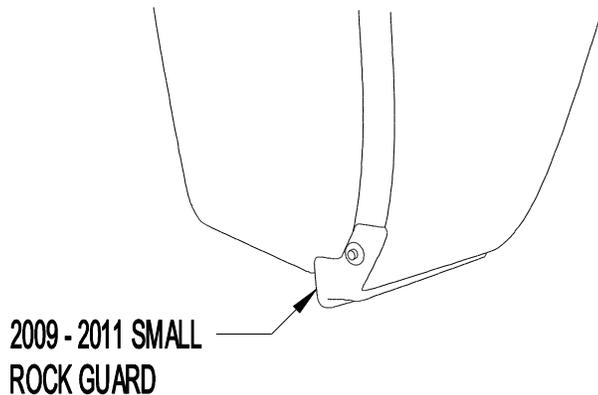
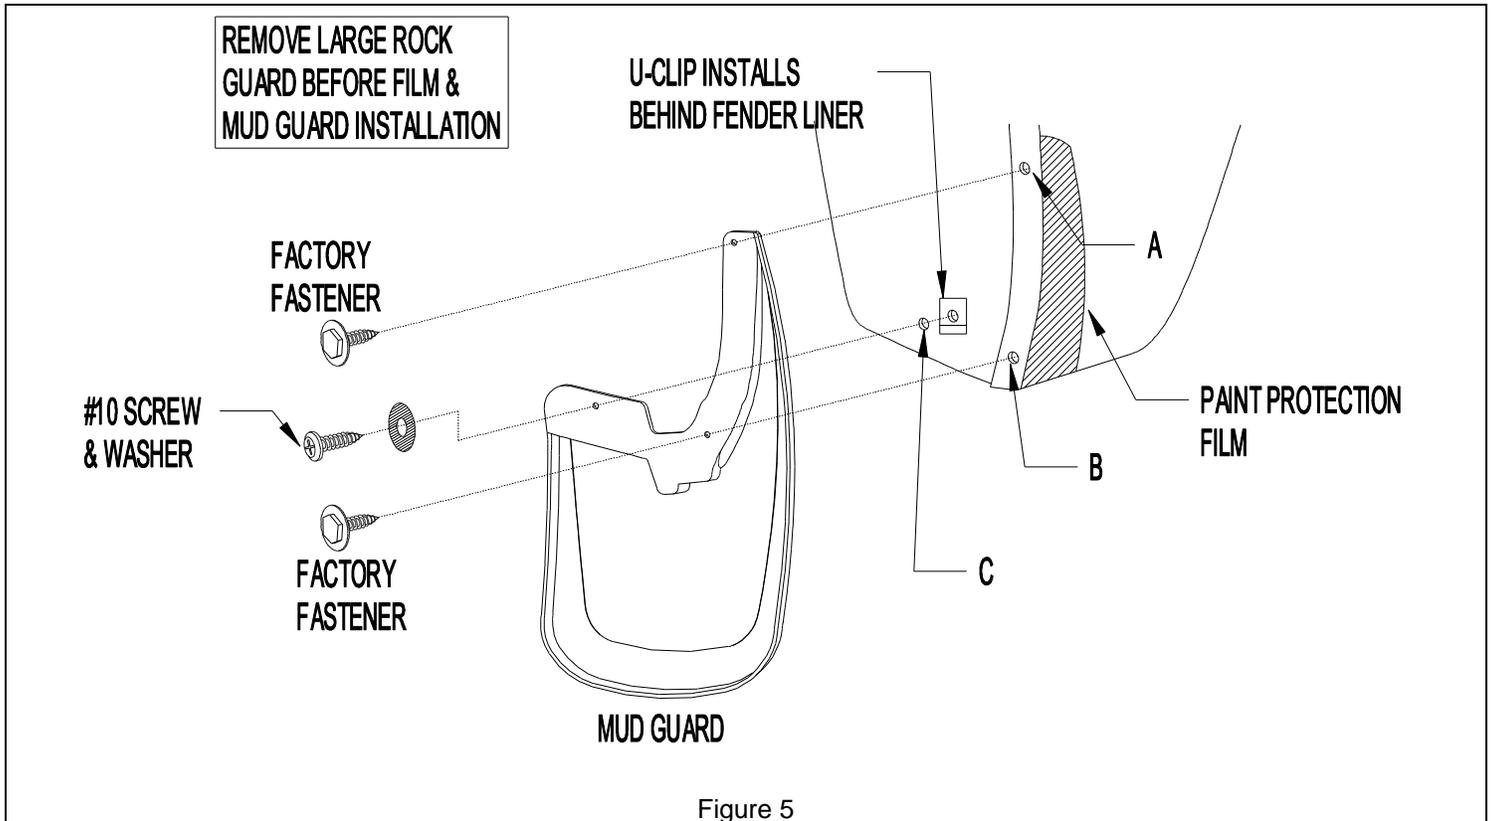

Figure 1
Figure 5
**FIGURE 1:** If you have the "small rock guard" as shown in Figure 1., simply leave the rock guard in place. Next, follow the paint protection film instructions and then the mud guard installation instructions.
1. If you have the "large rock" shown in Figure 2, remove the large rock guard before you install the paint protection film. If you have the small rock guard shown in Figure 1, leave the small rock guard in place and proceed with the paint protection film installation as shown.
1. If you have the "large rock" shown in Figure 2, remove the large rock guard before you install the paint protection film as shown in Figure 5. If you have the small rock guard shown in Figure 1, leave the small rock guard in place and proceed with the paint protection film installation as shown in Figure 4.
1. Remove the existing fastener from locations A and B as well as locations C and D if you have the "Large Rock Guard". Replace C and D after removal of the "large rock guard" if applicable. Once again, use Figure 4 if you have the "rock guard" in Figure 1 or use Figure 5 if you have the "large rock guard" in Figure 2.